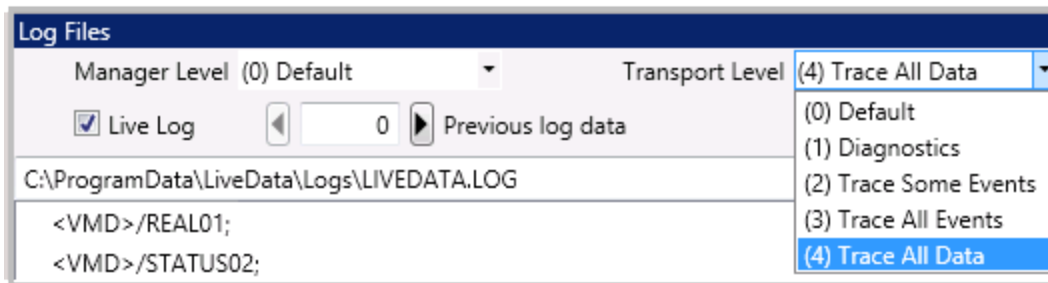

Figure 37: Transport Level
The transport layer is responsible for end-to-end communication over a network. It provides logical communication between application processes running on different hosts within a layered architecture of protocols and other network components. Transport Level logging groups information from the transport layer and other lower protocol layers. You can specify the amount of information that you would like to receive from least to most by selecting (0) Default, (1) Diagnostics, (2) Trace Some Events, (3) Trace All Events, and (4) Trace All Data from the Transport Level drop-down list (see Figure 37).